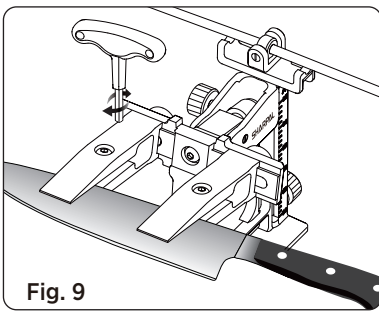

Fig. 9
3. Adjust the blade position so the distance from the end of each clamp to the cutting edge is equal for both clamps. Once the blade position is properly adjusted, securely tighten the fastening screws on both clamps using the wrench. (See Fig. 9)